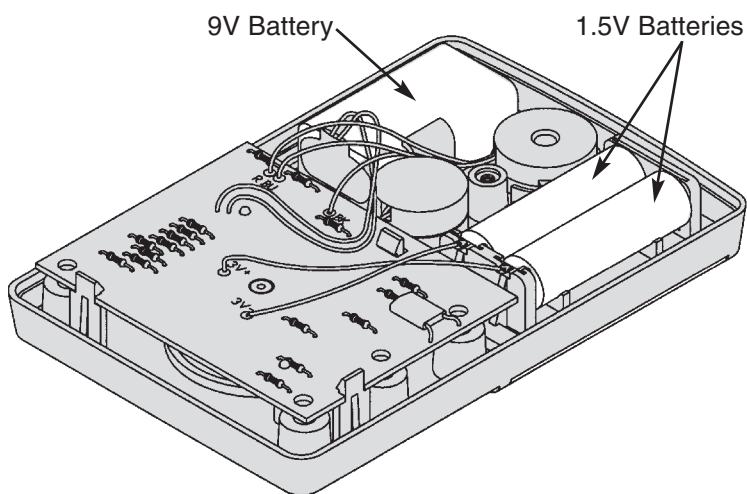

Figure 1
1. Install the 9V and the two 1.5V (AA) batteries as shown in Figure 1. Be sure to observe the polarity markings on the bottom of the battery compartment.